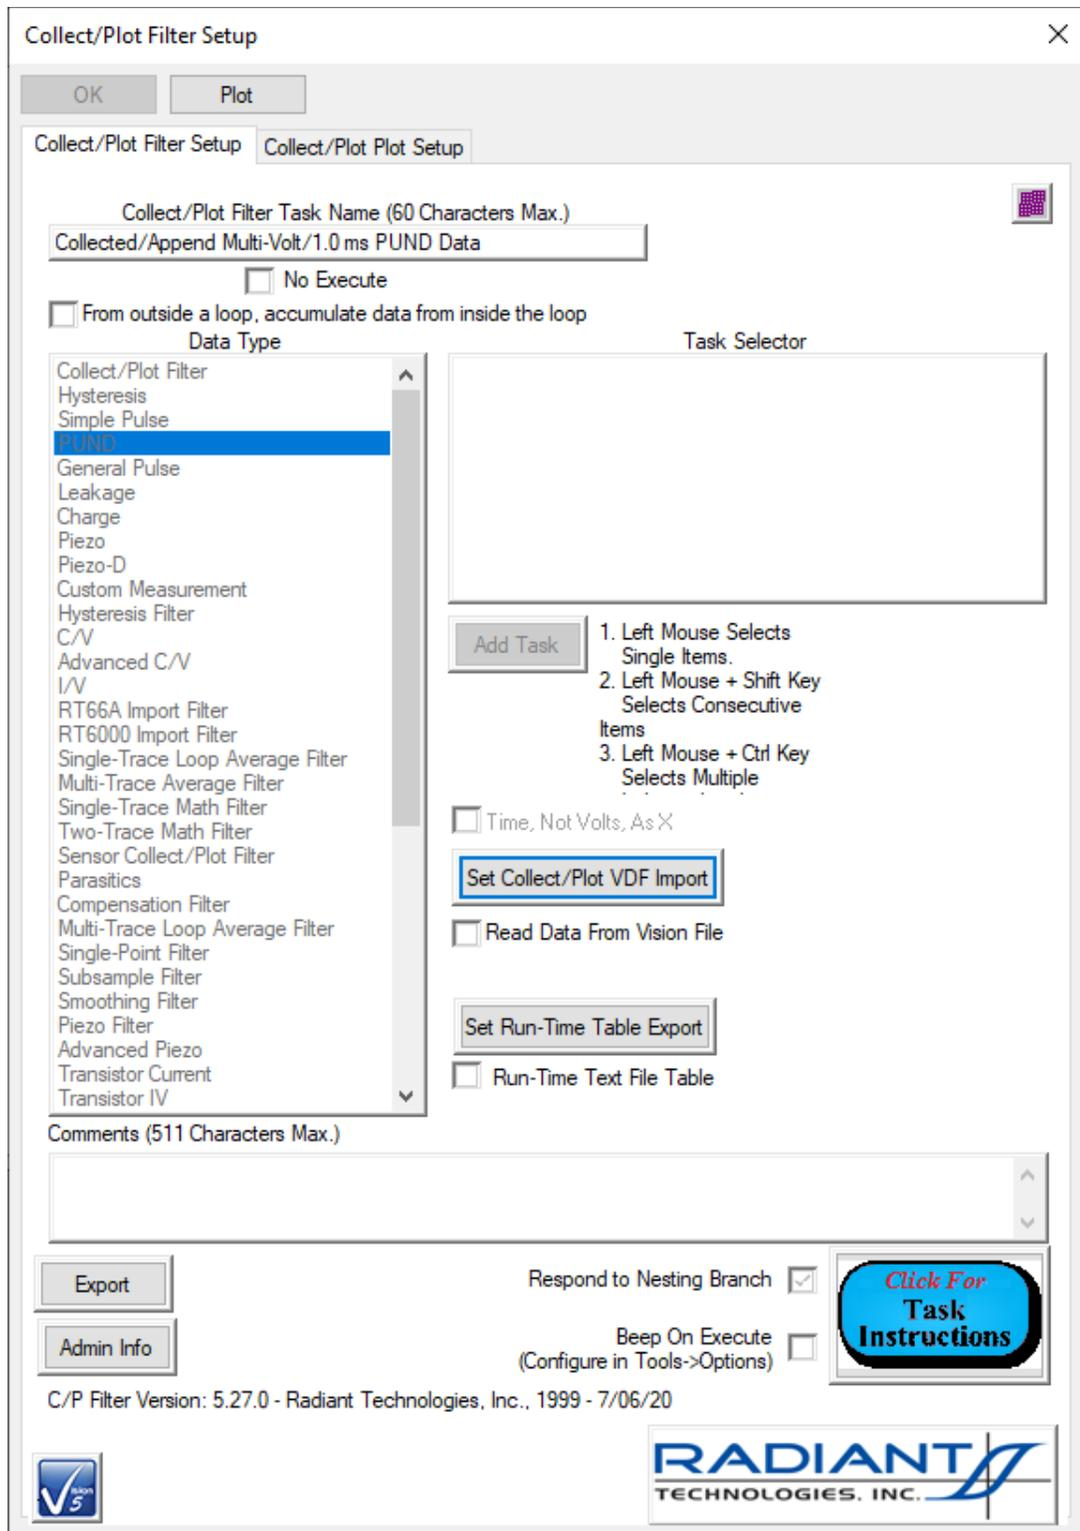

Figure 8 - Collect/Plot Filter Configuration - Disabled for Review Only.
Step 7: Recall Collect/Plot Filter and Single-Point Filter Task data. [Note that the entire Test Definition is not reconstructed, only the recalled Filter Task. For this reason the *Task Selector* control is empty when the Task is recalled from the DataSet Archive as in **Figure 8.**] Most Filter Tasks maintain enabled controls in their plot configuration dialog. After reviewing main configuration, clicking the plot dialog tab will allow the data presentation to be configured. Then, closing the configuration dialog presents the data in a Filter plot window.